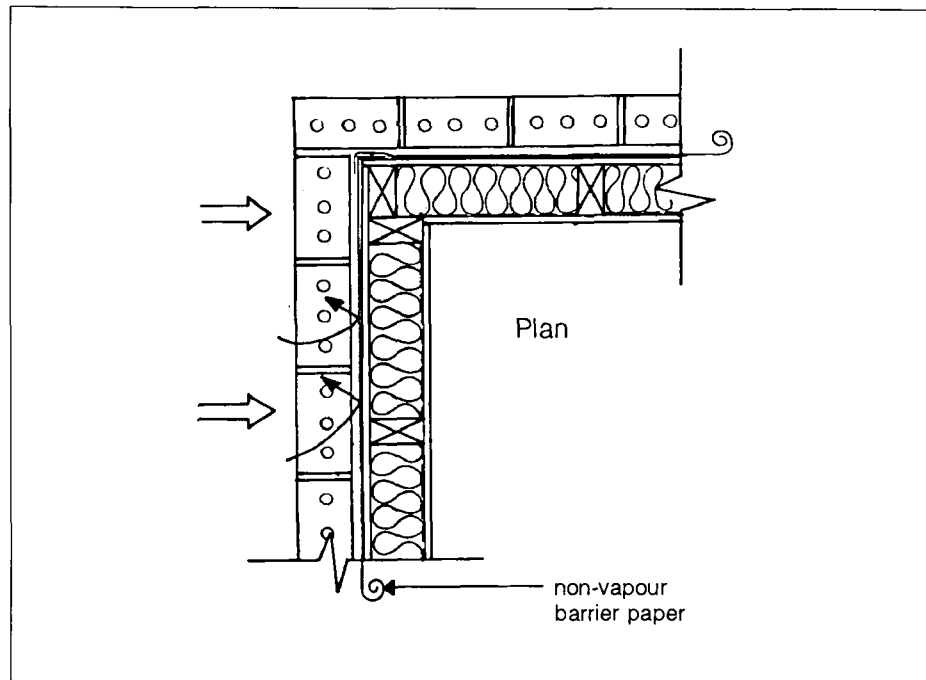

Fig. 30. Building paper minimizes wind washing into insulation
- Install sheathing or building paper (non-vapour barrier) to prevent the wind from blowing directly into the wall cavity or around the corner of the building (*fig. 30*).